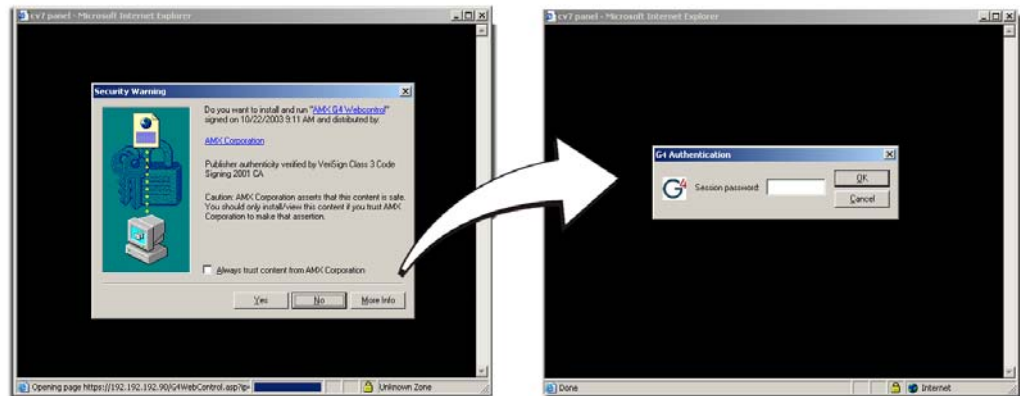

FIG. 91 Web Control VNC installation and Password entry screens
- Click on the G4 panel name link associated with the target panel. A secondary web browser window appears on the screen (FIG. 91).
- 10.** Enter the Web Control session password into the *Session Password* field (FIG. 91). *This password was previously entered into the Web Control Password field within the G4 Web Control page on the panel.*